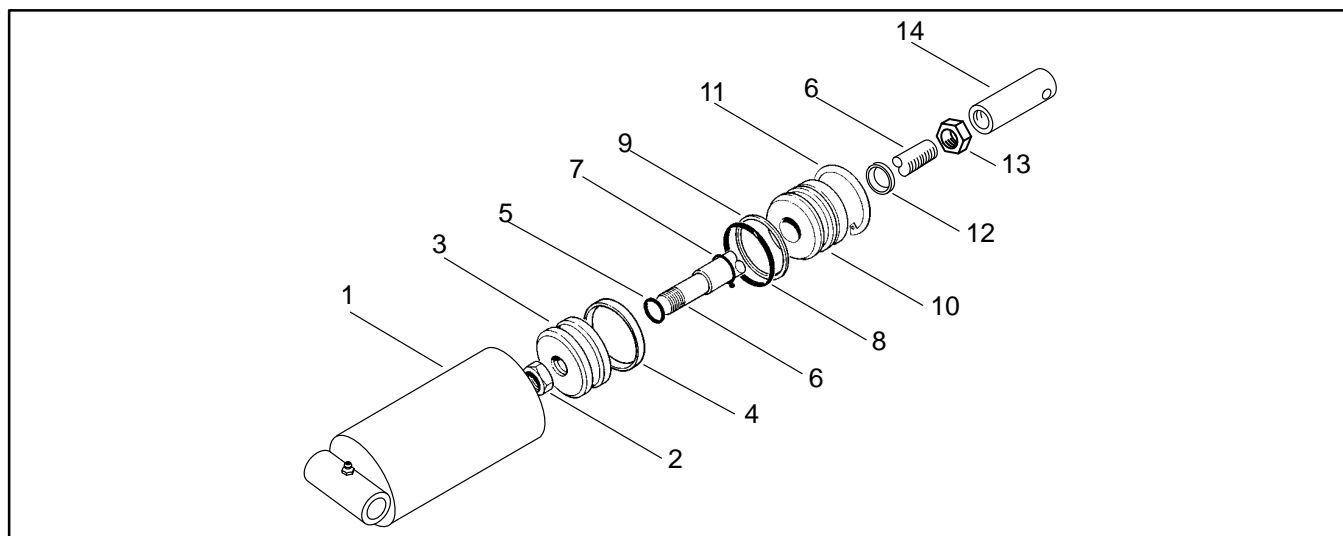

Figure 64
- B. Remove cotter pin (11) from clevis pin (12). Slide clevis pin out of the lift arm (13) removing flat washers (14) (Fig. 64).
- D. Loosen jam nut (13) and adjust rod clevis (14) as necessary (Fig. 64). Tighten jam nut.
Disassembly (Fig. 64)
Inspection (Fig. 64)
Reassembly (Fig. 64)